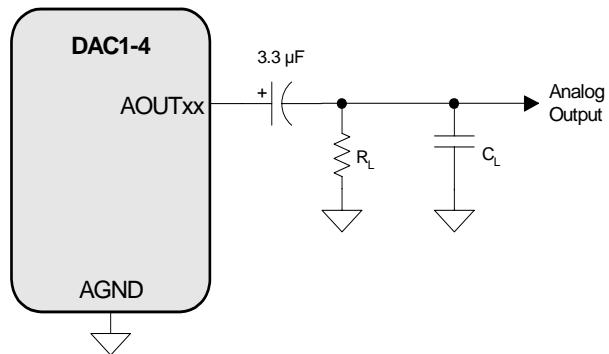

Figure 3. Output Test Circuit for Maximum Load
13. Guaranteed by design. See Figure 3. R_L and C_L reflect the recommended minimum resistance and maximum capacitance required for the internal op-amp's stability and signal integrity. In this circuit topology, C_L will effectively move the dominant pole of the two-pole amp in the output stage. Increasing this value beyond the recommended 100 pF can cause the internal op-amp to become unstable. See "External Filters" on page 50 for a recommended output filter.